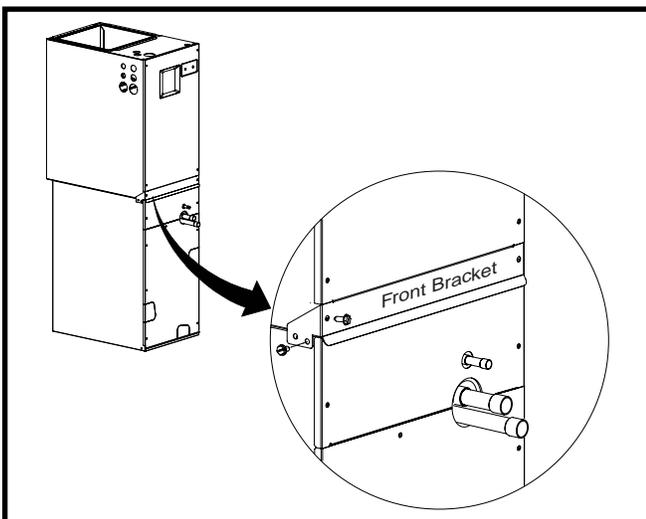

Figure 3. Front Bracket Installation - (Upflow Only)
3. Remove the lower front bracket (Figure 3, page 7) from the modular unit. Retain the screws for later use.
4. Attach the front joining bracket to the front of the modular unit. Align the screw holes in the bracket with the holes from the lower front bracket and the top panel of the coil case. See Figure 3.
1. Remove the lower front bracket (Figure 3) from the modular unit. Retain the screws for later use.